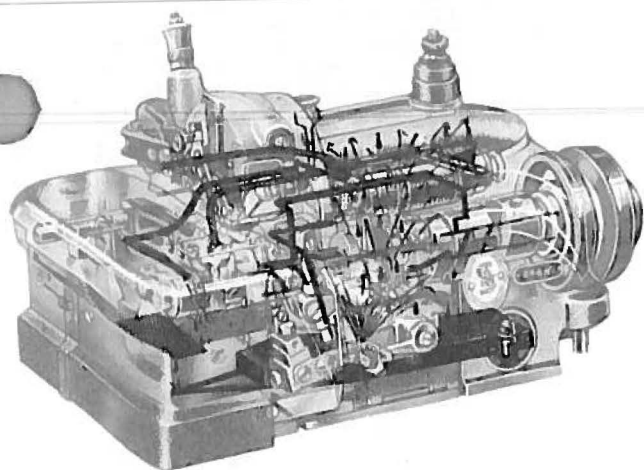

Fig. 2. X-ray View of Class 246K Machine
**Splash lubricating system**, shown in Fig. 2, automatically and continuously oils principal bearings during operation.